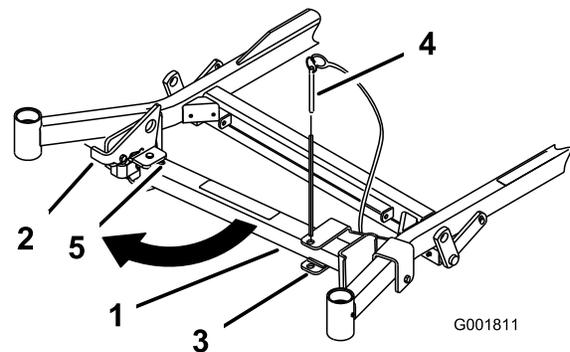
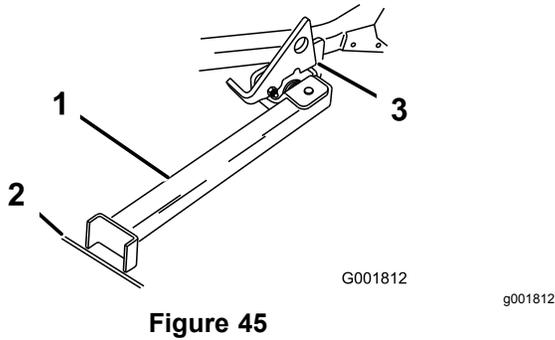

Figure 44
Figure 45
2. Remove the bracket pin (Figure 44).
- Swing the stand foot out front and slide it toward machine, into the bottom of slot (Figure 44 and Figure 45).
- Set the foot of the stand on the ground and rest the latch on the pivot tab (Figure 45).
**Note:** For best results, place the foot of the stand into the seams in sidewalks or into the turf (Figure 45).
- Drive the machine onto the stand. Stop when the latch drops over the tab into the locked position (Figure 45).
- Return the stand to its rest position (Figure 44).